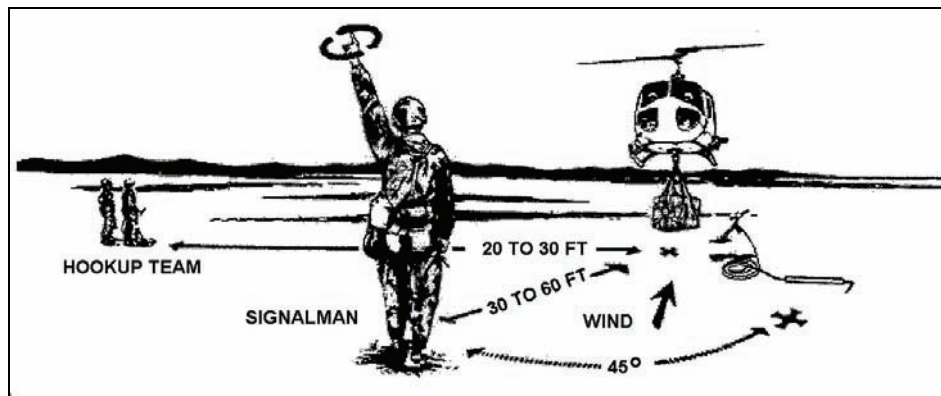

Figure 3-91. Hookup Team at Rendezvous Point
j. Direct members of the hookup team to move quickly out from under the helicopter to the rendezvous point before the aircraft rises (see Figure 3-91).